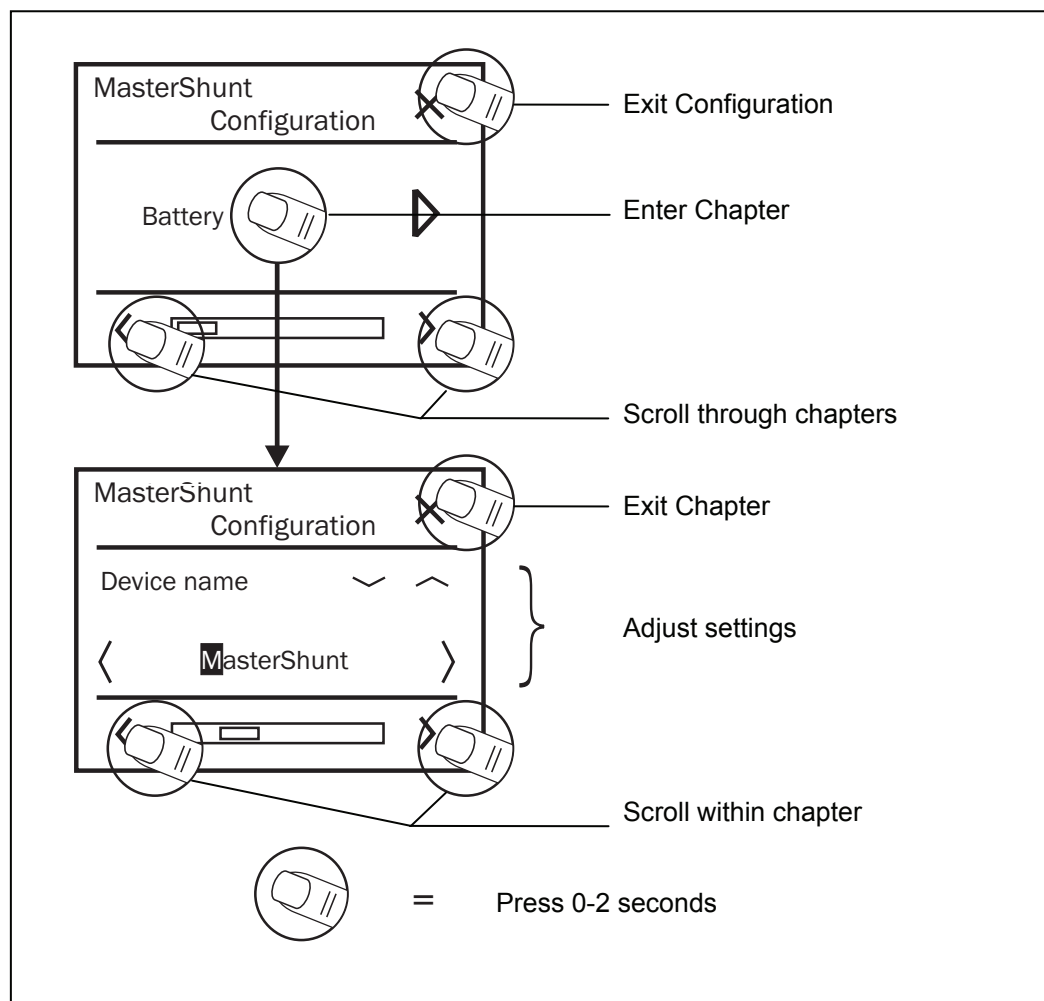

Figure 11: Operation of the MasterView Easy, example Configuration
- Press X to leave a menu or to cancel a setting (see figure 11). You will then return to the main menu.
The MasterView Easy start screen shows the Device List, see also figure 11. By selecting the Easy display itself, you will enter the *MasterView Easy* monitoring menu, see the tables below.